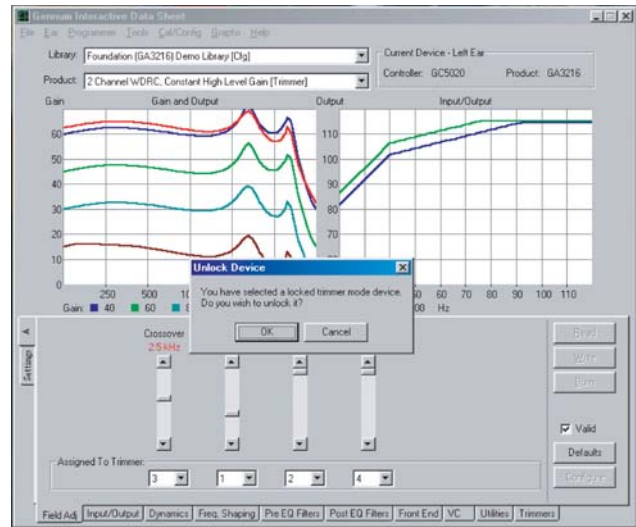

Fig. 4 Unlocking a locked trimmer device.
- In order to reconfigure the device, it must be reinitialized with IDS. A text box will appear stating that the device is locked in trimmer mode (Fig. 4). Click 'OK' to unlock the device. This will enable communication with IDS once again.